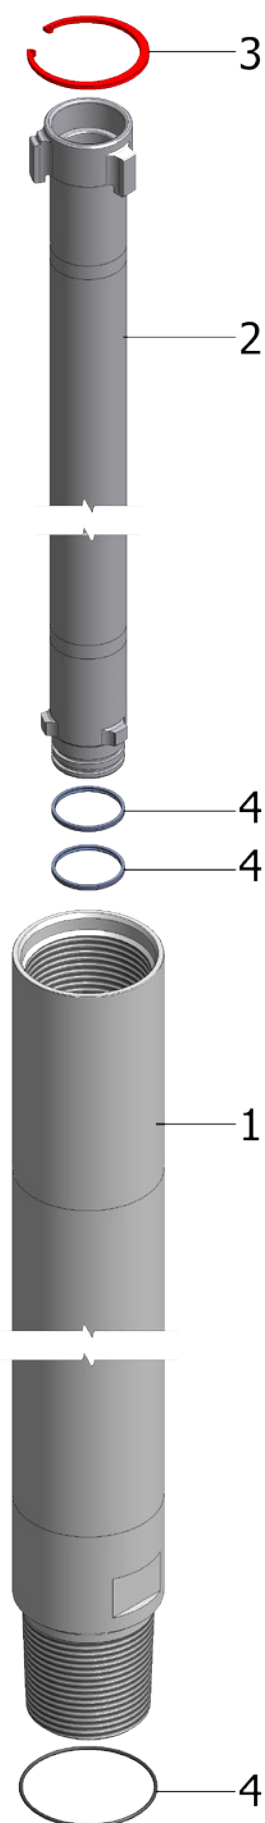

FIG. 3.19
D.127 C2 ROD: J-12C21000 (L=1000); J-12C22000 (L=2000); J-12C23000 (L=3000) (REF. FIG. 3.19)